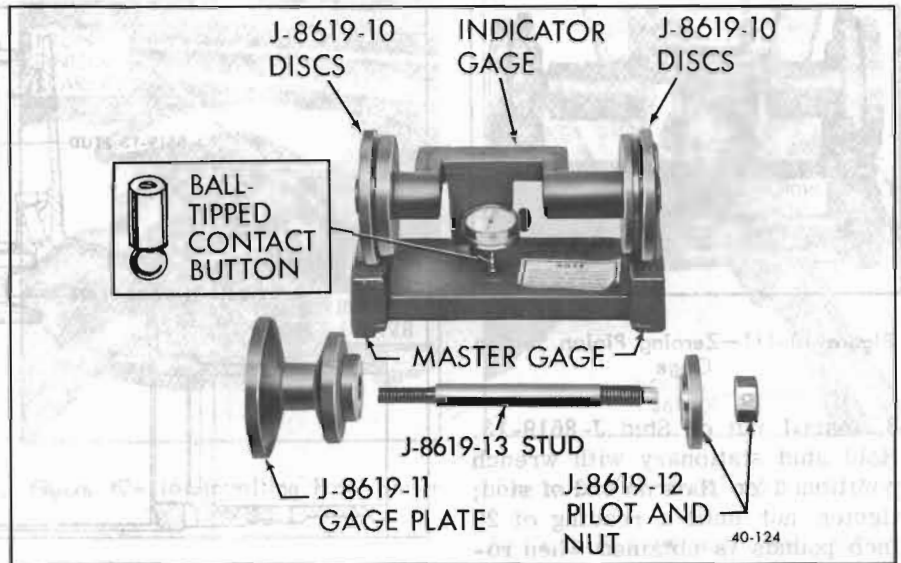

Figure 40-110—Pinion Setting Gage
4. Position seal over Installer J-21129 and drive seal straight into axle housing until fully seated. See Figure 40-110.
Pinion depth is set with Pinion Setting Gage J-8619 which consists of the following: (1) master gage, (1) indicator gage with dial indicator, (2) J-8619-10 Discs, (1) J-8619-11 Gage Plate, J-8619-12 Pilot and Nut with J-8619-13 Stud. See Figure 40-110. Although production pinions are marked, neither production nor service pinions have a gaging tooth. The pinion setting gage provides in effect a nominal or zero pinion as a reference.
4. Install the J-8619-10 Discs on the indicator gage. Install the small ball-tipped contact button on the stem of the dial indicator and mount the dial indicator on the indicator gage. See Figure 40-110.